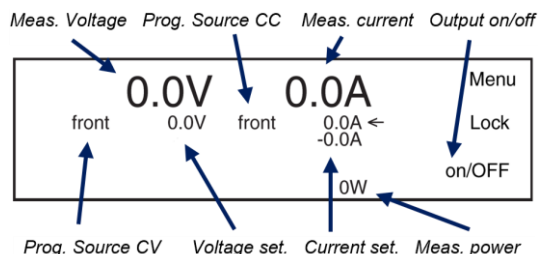

Figure 5.3: Measured values and settings
- The first line in the display indicates the measured output voltage and current at the DC output terminals. The second line shows the programmed Constant Voltage (CV) and Constant Current (CC) values, see Figure 5.3 for an example.